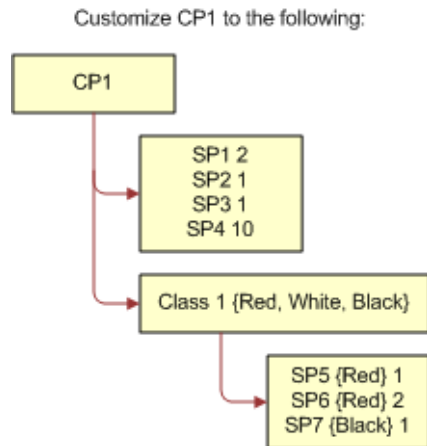

Figure 10. Customized CP1
- 2 CP1 is then customized as shown in Figure 10.
Figure 10 shows the customized CP1 with the following structure: CP1 has four simple product relationships defined (SP1, SP2, SP3, SP4) and a Product Class called Class 1. A further three simple product relationships (SP5, SP6, SP7) are defined and associated with Class 1. Class 1 is associated with an attribute with the values {Red, White, Black}. SP1 has a default quantity of 2, SP2 has a default quantity of 1, SP3 has a default quantity of 1, and SP4 has a default quantity of 10. SP5 has a default quantity of 1 and the attribute value Red. SP6 has a default quantity of 2 and the attribute value Red. SP7 has a default quantity of 1 and the attribute Black.
- 2 Add CP1 to a quote or an order line item, and then customize CP1 as shown in Figure 10.